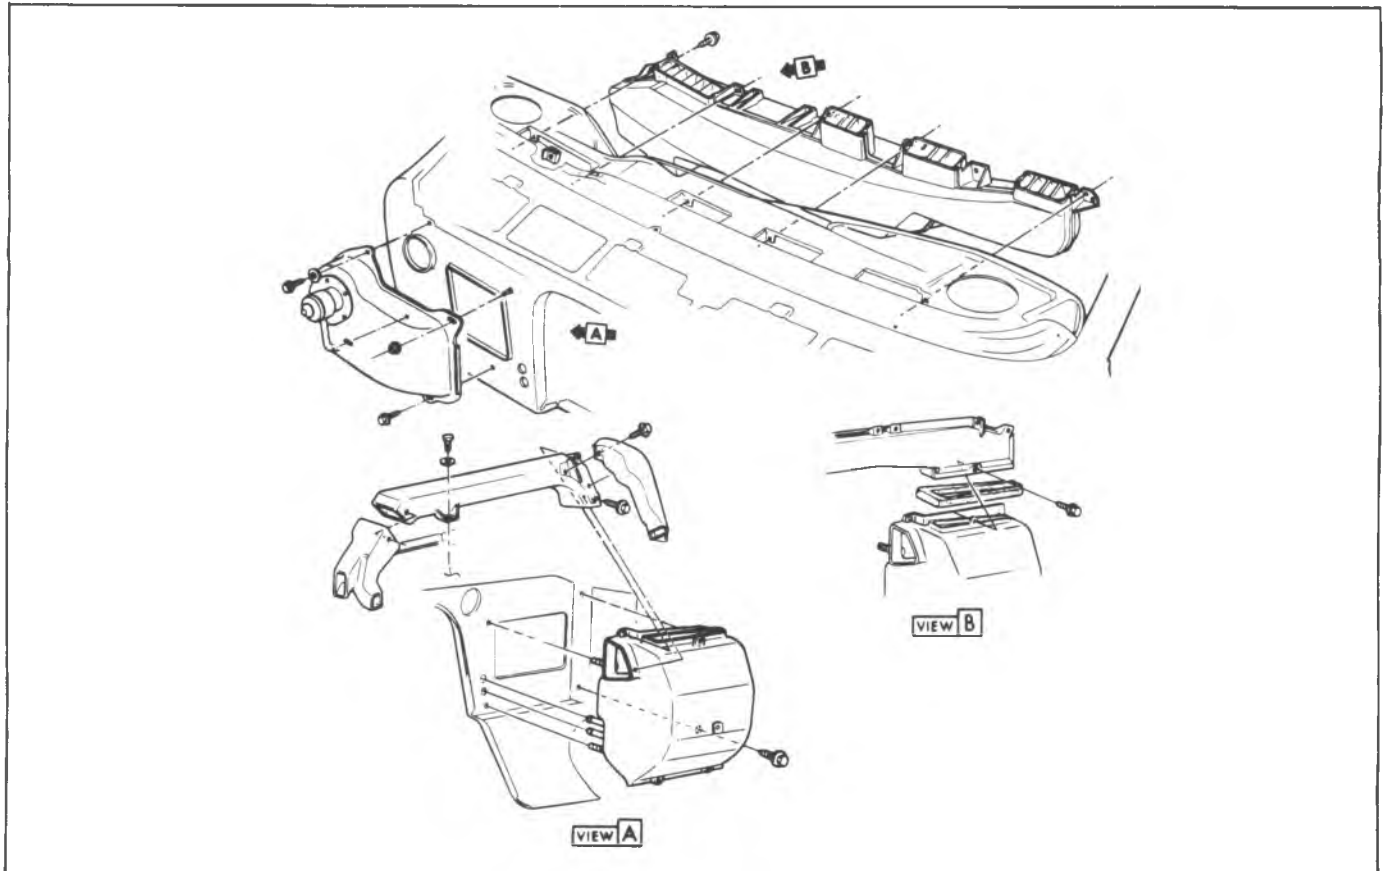

Fig. 1B-43--Heater Distributor Duct-G Series
9. Remove heater distributor duct. (Figure 1B-45).
12. Remove three (3) nuts from bolts attaching heater core case to dash panel and one (1) screw at lower right corner (inside).
14. Remove gasket (Fig. 1B-46) to expose screws attaching case sections together.